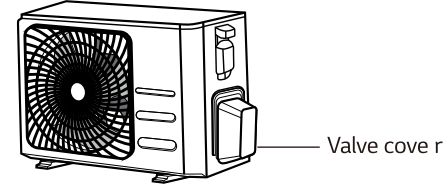

Fig. 5.9
- Unscrew the cover from the packed valve on the side of the outdoor unit. (See Fig. 5.9)